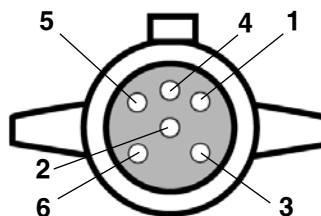

Figure 13
2. Wire the plug to match your vehicle, or follow Figure 13. Apply a silicone sealant to the wires where they attach to the plug. This will help prevent damage from moisture and corrosion.